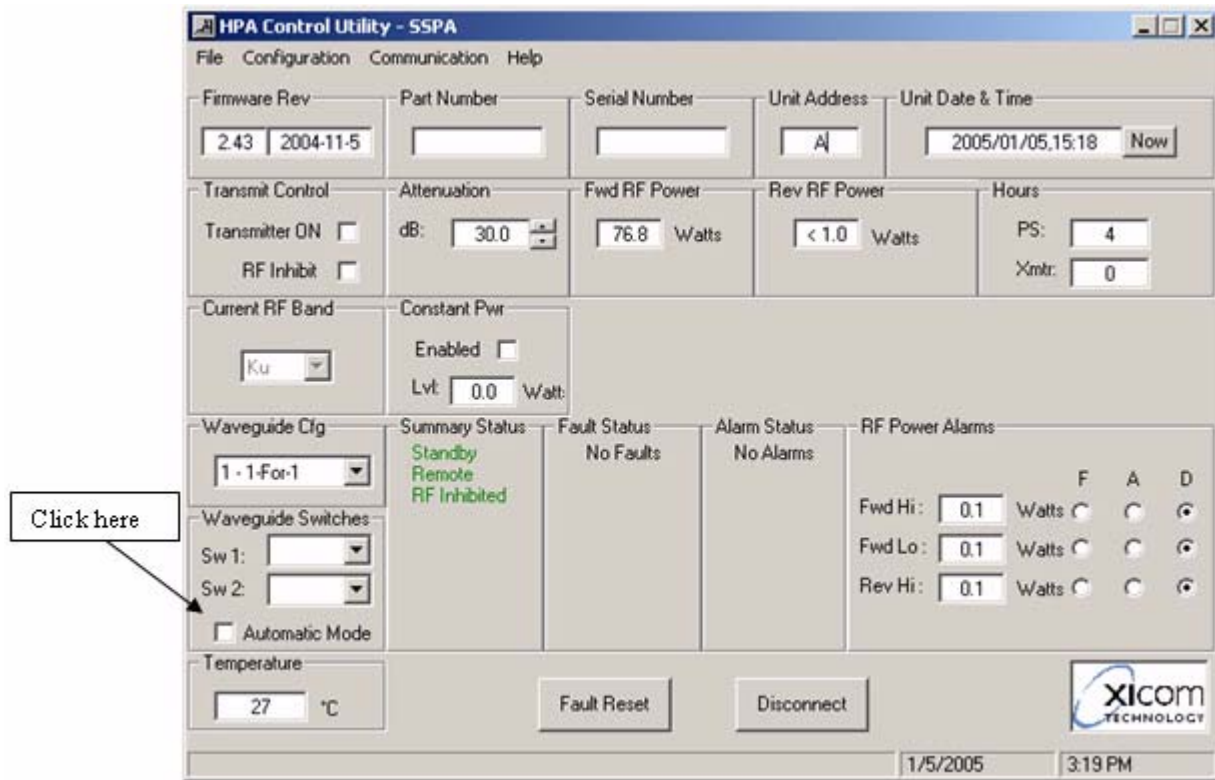

Figure 35, Select redundant Mode
8. Refer to Figure 35. Once the redundant mode is selected and the waveguide switch is set appropriately, to have a faulted amplifier automatically switched out and the standby amplifier switched in, Automatic Mode must be enabled. Enable Redundant Mode by clicking the “Automatic” mode checkbox as shown.